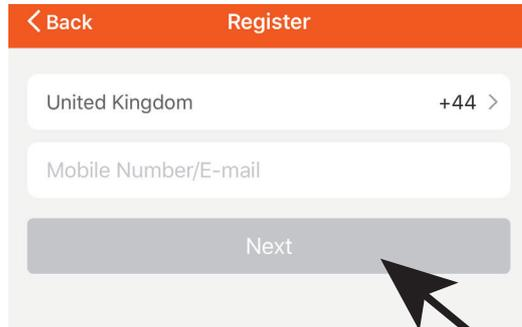

Fig 2
A) Mobile Number: Select the country, then enter your mobile number. Once done, tap 'Next'. (Ref Fig 2)
B) E-Mail: Enter your email id and tap on 'Next'. (Ref Fig 2)